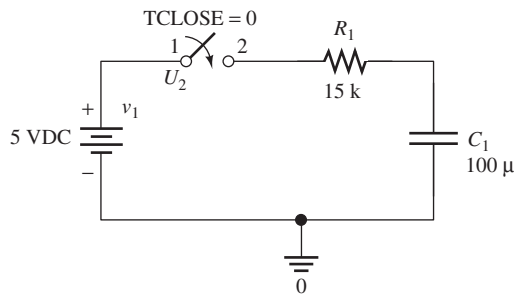

FIGURE 5.48 PSpice solution for Example 5.19.
1. A PSpice schematic solution can be set up as shown in Figure 5.48. Set the initial condition for the capacitor to 0 V (Example 16 shows how to set up initial conditions).